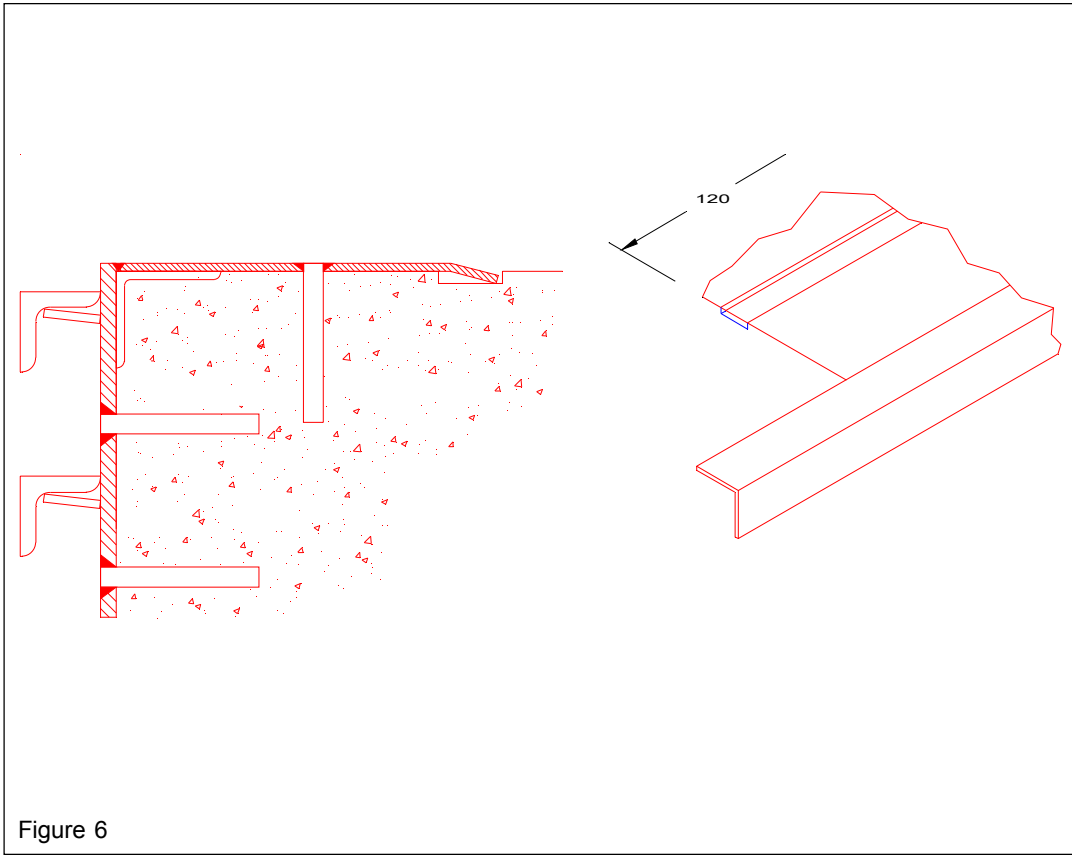

Figure 6
8. Measure back 12" from the dock edge and chalk a line along the dock floor parallel to the edge of dock the length of the rail (See Fig. 6).
9. Cut a groove 2" wide by 3/8" deep the length of the chalk line. The outside edge of the groove should be on the chalk line with the groove opening towards the edge of the dock (See Fig 6).
13. Weld and/or burn off anchor heads. This procedure should be done one anchor at a time to assure a secure mounting. Remove head, weld stud to plate, grind weld flat to assure smooth surface (See Fig. 6).